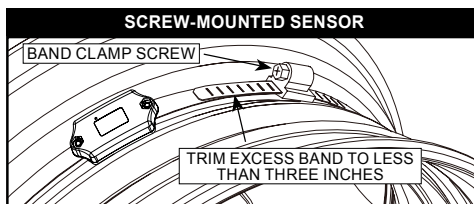

Figure 2: Screw-mounted Internal sensor final install
4. Put the sensor and sensor band in the **center position** (sometimes known as the “well”) of the wheel hub. See Figure 2.
5. Tighten the band clamp on the wheel hub. Ensure sensor does not move laterally or rotate on wheel hub. See Figures 2, 4 and 5.
- 1) On **SCREW-MOUNTED SENSOR**, trim excess band. Do not let the trimmed end of the band protrude away from the wheel. See Figure 2.